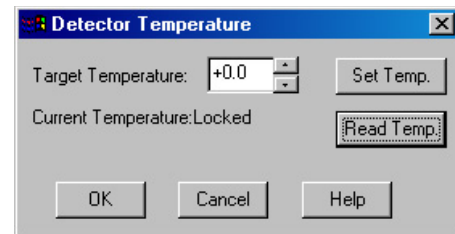

Figure 30. Temperature dialog
1. Open the WinSpec/32 Setup menu and click on **Detector Temperature**. This will cause the Temperature dialog to appear as shown in Figure 30.